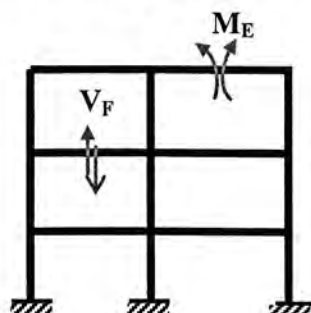

Figure 14
- (ii) Draw the qualitative influence lines of **maximum positive moment at E**, $M_E^{\max(+)}$ and **maximum negative shear at F**, $V_F^{\max(-)}$ for the frame shown in Figure 14. Also place the Live Load 25 kN/m and Concentrated Moving Load 50 kN.